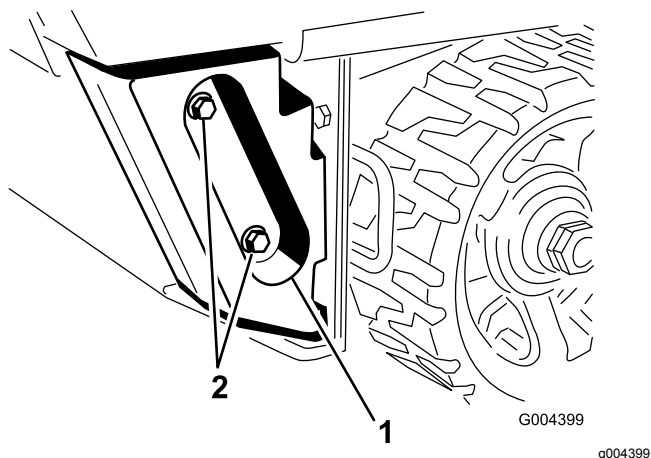

Figure 1
6. For TX 400 series machines, remove the counterweights and their fasteners from the rear of the machine and store them in a safe location (Figure 1).